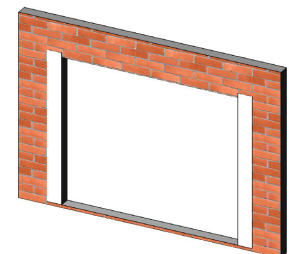

Figure 7:
- At each Jamb the flashing paper should be cut at least 3" past the weep-screed or diado flashing and at least 6" above the head of the door. The flashing must wrap around the jamb and at least 3" back into the opening (Figure 7).